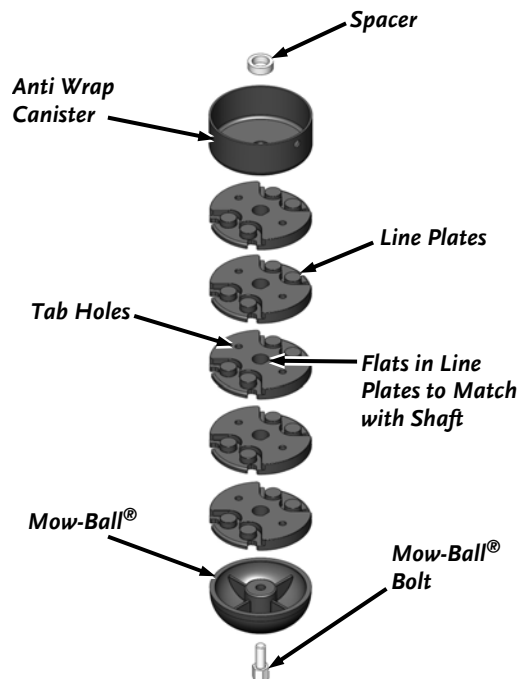

Figure 22
- Slide the Line Plates, Anti Wrap Canister and Spacer off the Shaft (**Figure 22**).
Improper installation can cause damage to the trimmer bearings. Follow these directions carefully to protect your machine from damage. Reassemble the components in the order shown in **figure 22**.
- Place the Spacer and Anti Wrap Canister (with the lip facing up) onto the Shaft (**Figure 22**).